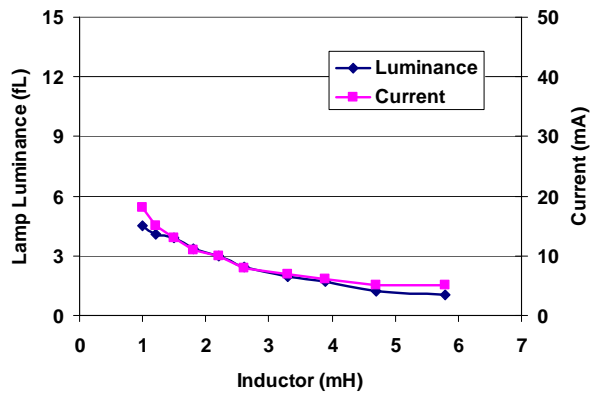

Figure 3: $V+=1.5V$, $1in^2$ ($6.45cm^2$) EL Lamp
The external inductor (L) selection for a D355B IC circuit greatly affects the output capability and current draw of the driver. A careful designer will balance current draw considerations with output performance in the choice of an ideal inductor for a particular application. Figure 3, 4, and 5 show typical brightness and current draw of a D355B IC circuit with different inductor values, lamp sizes, and supply voltages while keeping the LF constant. Please note that the DC resistance (DCR) of inductors with the same nominal inductance value may vary with manufacturer and inductor type. Therefore, inductors made by a different manufacturer may yield different outputs, but the trend of the different curves should be similar. Lamp luminance is also a function of lamp size. In each example, a larger lamp will have less luminance with approximately the same current draw.